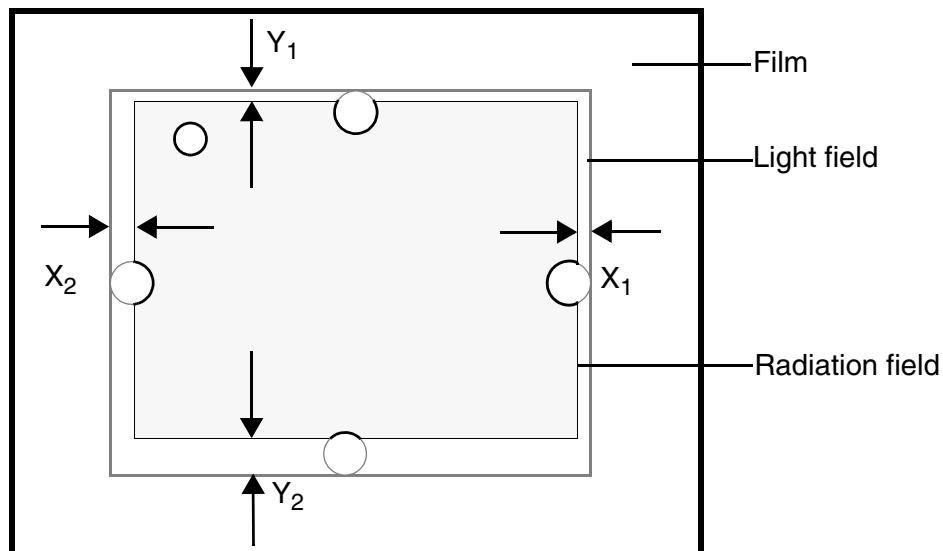

Fig. 17
- Measure the deviations ( $X_1$ ,  $X_2$ ,  $Y_1$ ,  $Y_2$ ) between the edges of the light field and the radiation field on all four sides, corresponding to Fig. 17.